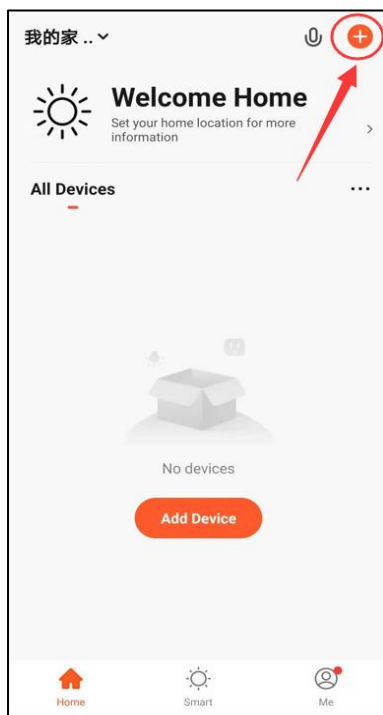
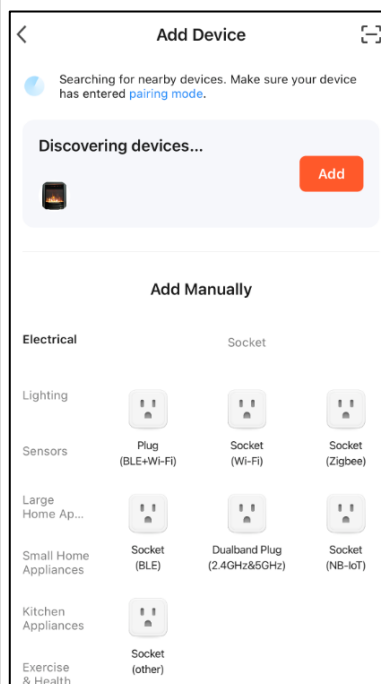

FIG.1
FIG.2
3. When you log in, the APP will scan, press the "+" (FIG. 1) and add the fireplace to APP (FIG. 2) automatically. Touch "add" to enter in FIG. 3. Touch "Next" to enter (FIG. 4). Enter your WiFi username and password, which will add successfully (FIG. 5). Touch "Done" to finish WiFi setting (FIG. 5).